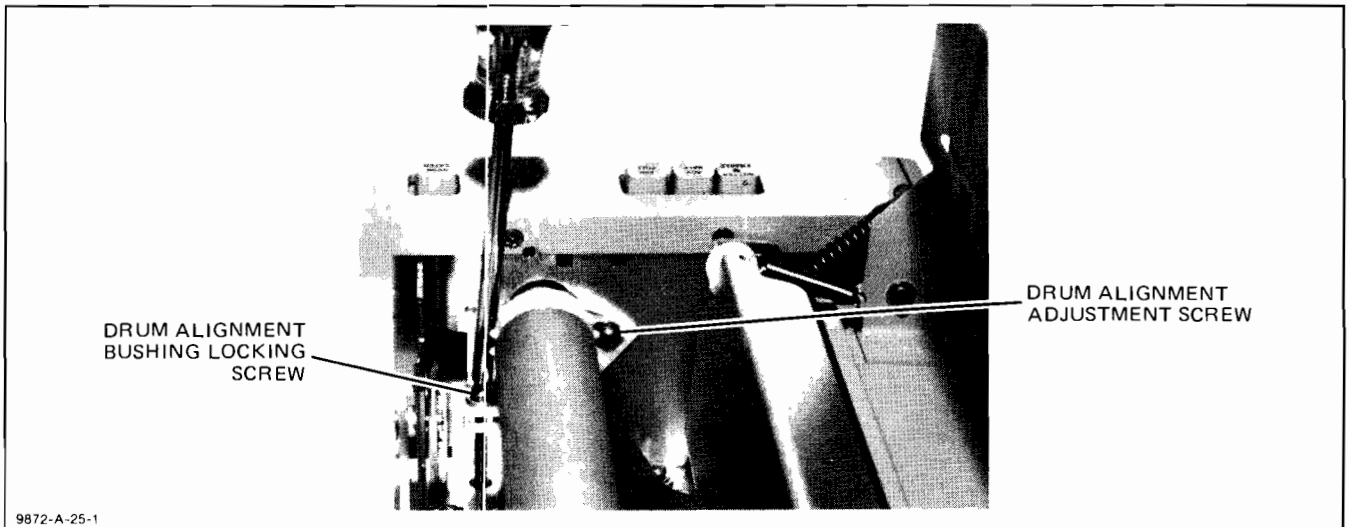

Figure A3-4. Perpendicularity Alignment
- a. Set the plotter LINE switch to the Off (O) position, and remove the line cord.
- e. If adjustment is required, open the drive module lid and loosen the screw in the drum alignment bushing. See Figure A3-4.